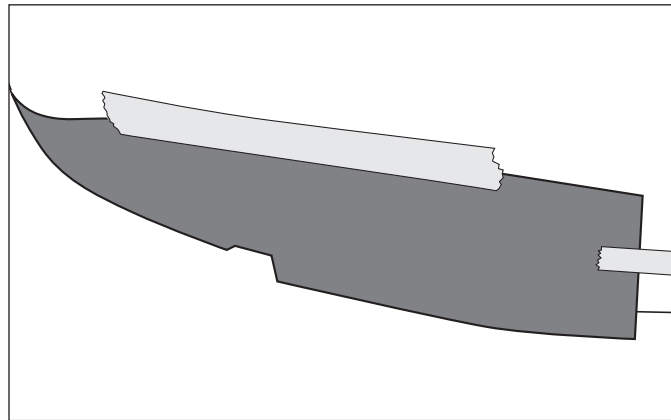

Figure 8
5. Create a hinge on the lower vinyl using tape as shown below (fig. 8).